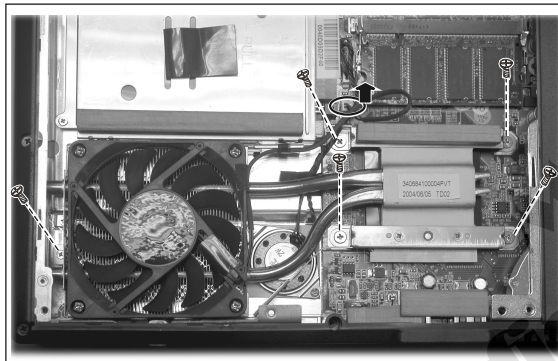

Figure 2-5 Free the heatsink
2. Disconnect the fan's power cord from system board and remove five screws that secure the heatsink upon the CPU, Then free the heatsink. (Figure 2-5)